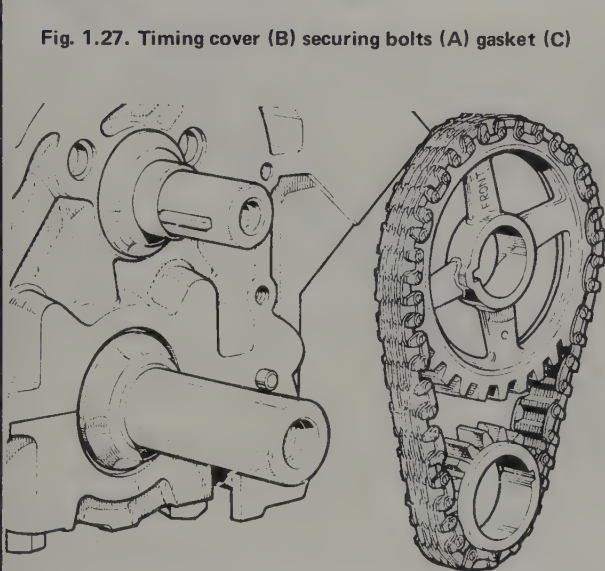

Fig. 1.29. Timing chain and sprockets ready for fitting
- 25 The chain wheels complete with the chain can now be slid away from their respective shafts. (Fig. 1.29).